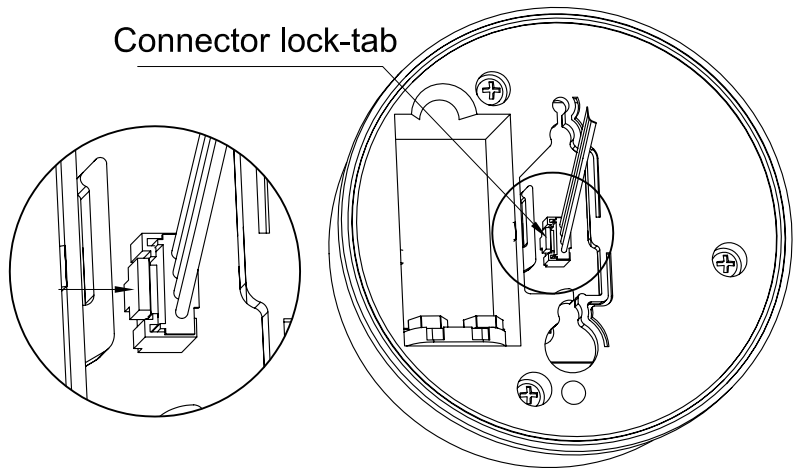

Figure 4
- a) Carefully insert the connector into the socket and gently press the connector until a click is heard. If it doesn't easily slide into position, do not force it. You need to turn it 180° to retry it. (Figure 4)